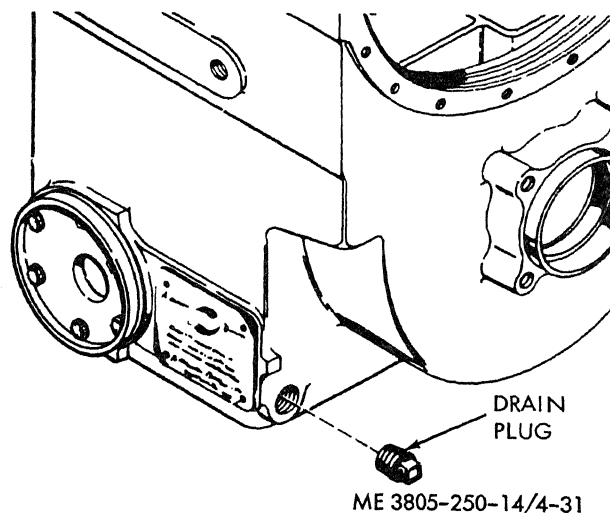

Figure 4-31. Draining transmission oil.
(1) *Draining.* With the transmission at operating temperature (180° F), remove the drain plug at the lower left rear of the transmission housing (fig. 4-31). Remove the oil filter (subpara e) and service the oil strainer (subpara f). Allow the oil to drain for 30 minutes. Install the oil strainer and a new filter element.